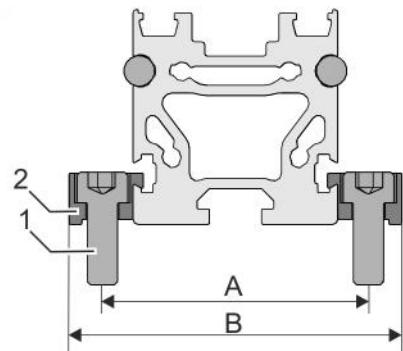

Fig. 14: Fixing clamping bars
3. → Tighten two screws (Fig. 14/1) for each clamping bar (Fig. 14/2).